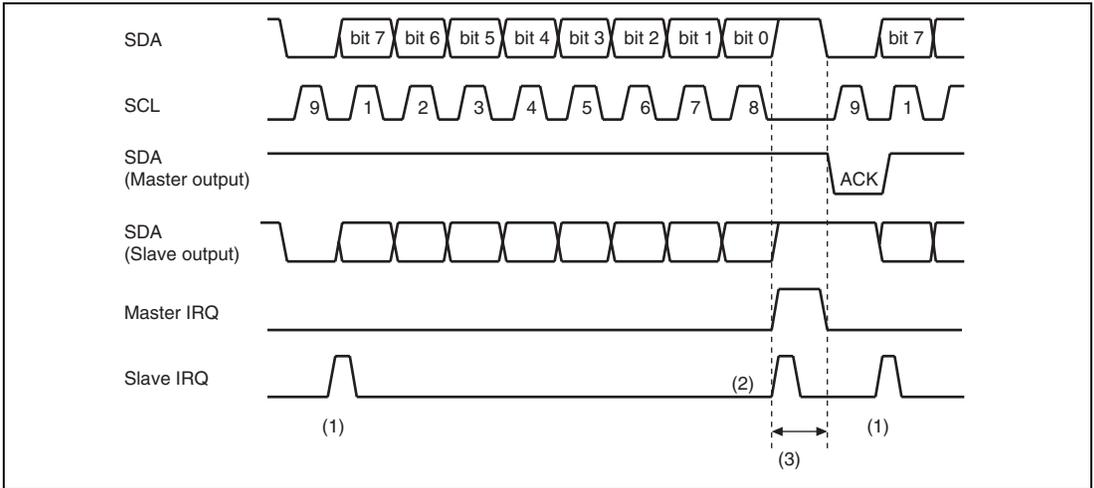

Figure 29.10 Data Receive Mode Operation Timing
The data receive procedure and operation in master receive mode are described below. Figure 29.10 shows the timing chart in master receive mode. Setting the MDBS bit in the master control register allows the I²C to operate in single-buffer mode.
2. The slave device automatically enters the data transmit mode according to the signal that indicates the data transfer direction, and transmits 1-byte data in synchronization with the SCL clock output from the master device. The master device generates an interrupt of MDR (bit 1) at the eighth clock (at the timing of (2) in figure 29.10). Clear the MDR bit after the master device reads receive data. If this processing is delayed, the slave device extends the SCL period to suspend data transmission (at the timing of (3) in figure 29.10).
3. The slave device generates an interrupt of the status SDT (bit 2) indicating 1-byte data transfer end at the eighth clock (at the timing of (2) in figure 29.10) and an interrupt of the status SDE (bit 3) indicating data empty at the ninth clock (at the timing of (1) in figure 29.10). Clear SDE after writing slave transmit data to TXD.
Signal level changes of (1) to (3) in figure 29.10 are generated after the falling edge of the clock.